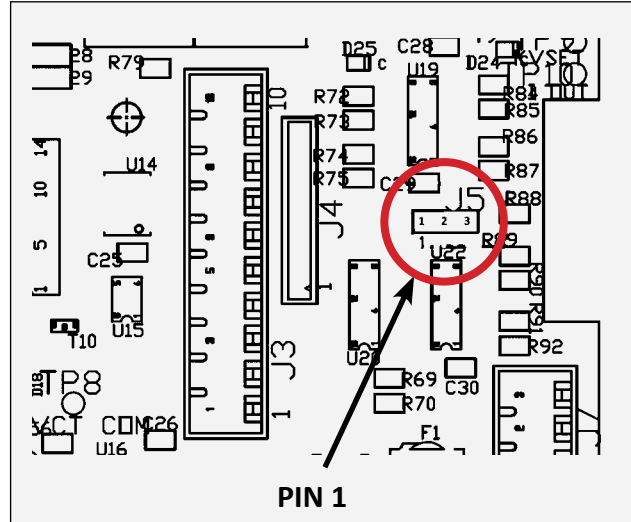

Figure 14: PC Mainboard Jumper J5 Location
4. Verify that J5, shown on Figure 14, has the shunt covering pins 1 and 2.